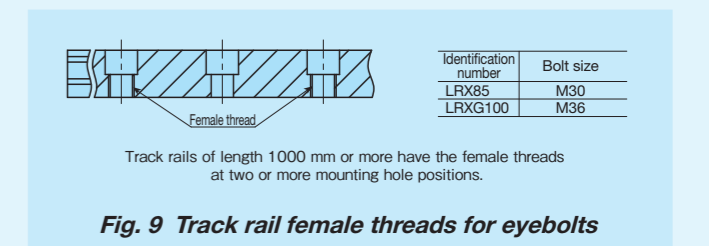
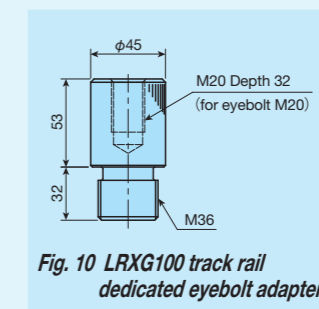

Fig. 9 Track rail female threads for eyebolts
Fig. 10 LXXG100 track rail dedicated eyebolt adapter
- As LRX(D)(G,L)85 and LRXG100 are heavyweight products, we recommend the use of eyebolts for transport and assembly. For eyebolt mounting, use the slide unit mounting holes and the track rail female threads for eyebolts (Fig. 9). For the LXXG100 track rail, also use the LXXG100 track rail dedicated eyebolt adapter (Fig. 10).